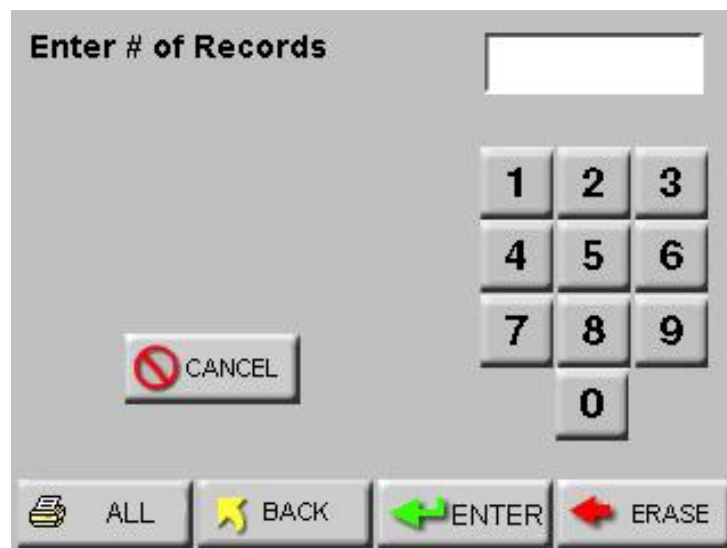

Figure 6-84 Print Range Screen – Buffer
- Press the RANGE button. The Print Range screen will display as shown in Figure 6-84.